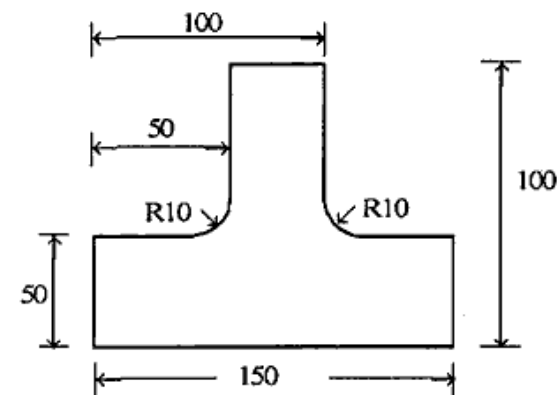

Figure 1
5. a) Develop a part programme in 'APT' language for given component in figure 1. Data given: 12